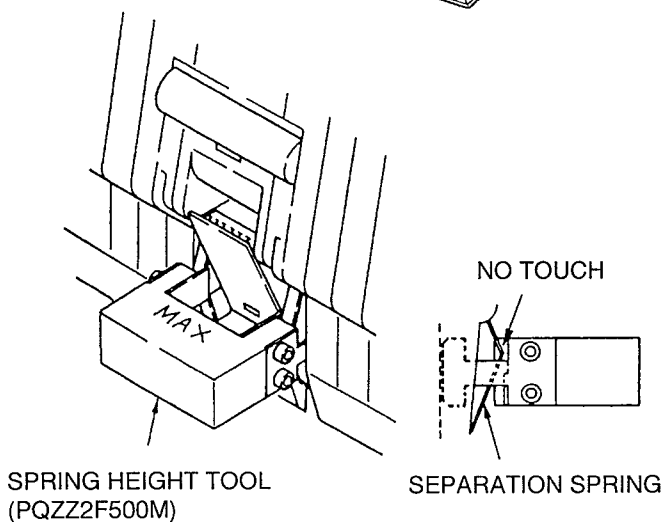

Fig. 1
2. Check the highest level of the separation spring with the spring height tool (PQZZ2F500M). Please make sure that the separation spring does not touch the tool during this operation. (Both right and left) (See Fig. 1).